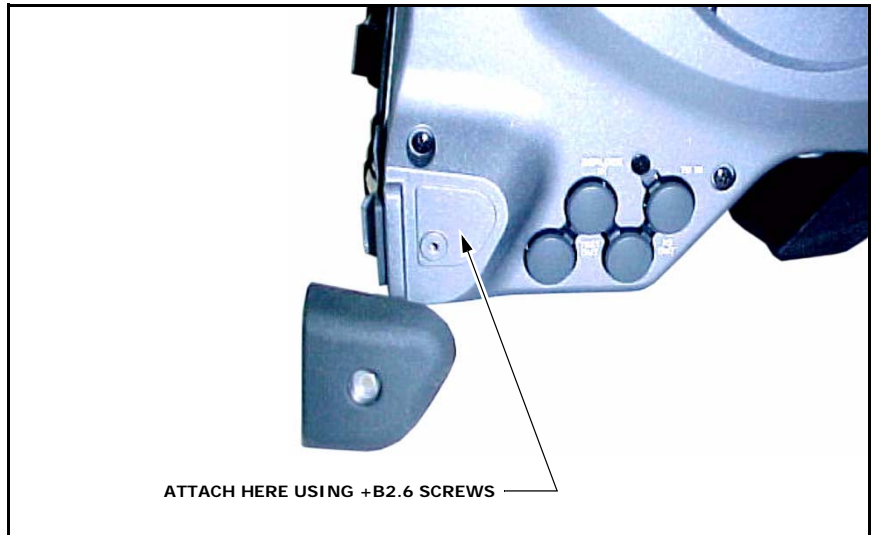

Figure 2
2. Attach the new protector using the five +B2.6 screws. (See Figure 2.)